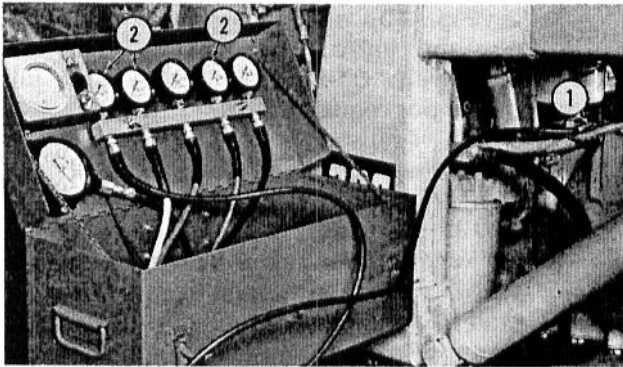

FIG. 12 — HYDRA-ANALYZER CONNECTED TO TRANSMISSION CASE
5. Insert the #6 fitting from the Hydra-Analyzer Kit and connect one of the hoses from a 400 psi gauge in the Hydra-Analyzer to this fitting. See Fig. 12.